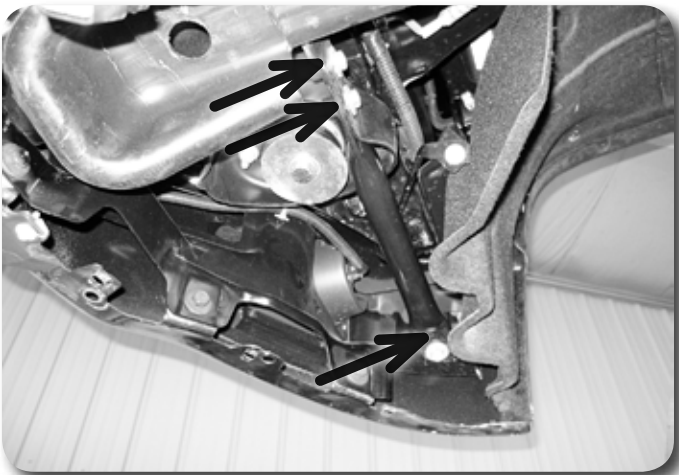

Figure 7
8. Disconnect the outer bumper supports from the bumper and frame Figure 7. Save hardware and supports.